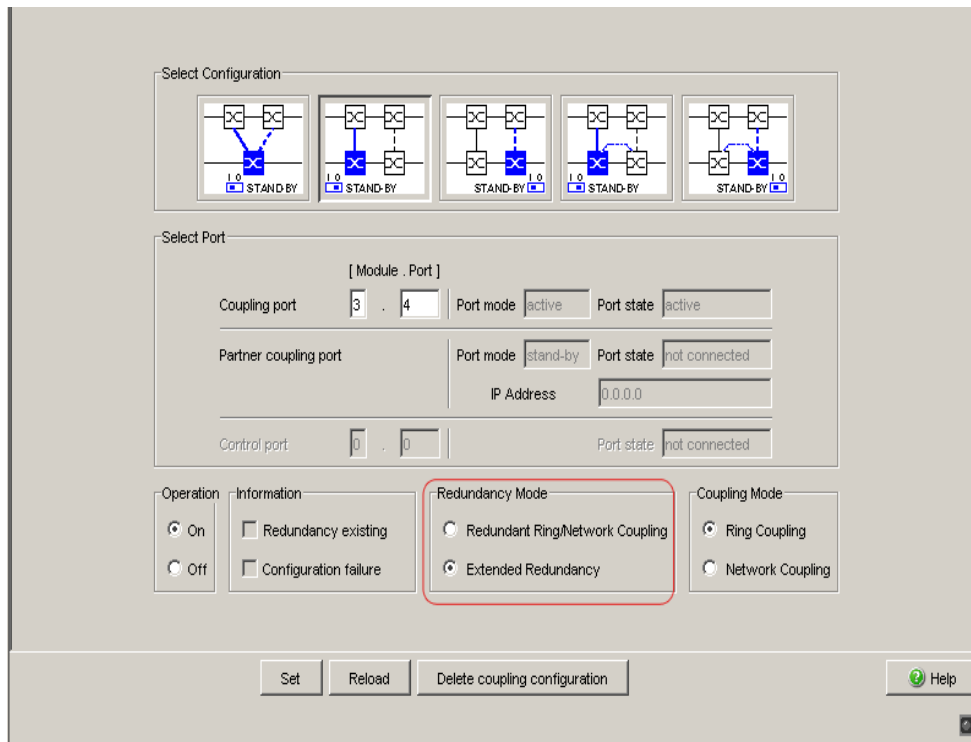

Figure 33: Two-Switch coupling: Selecting the redundancy mode
- In the “Redundancy Mode” frame, select (see fig. 33)